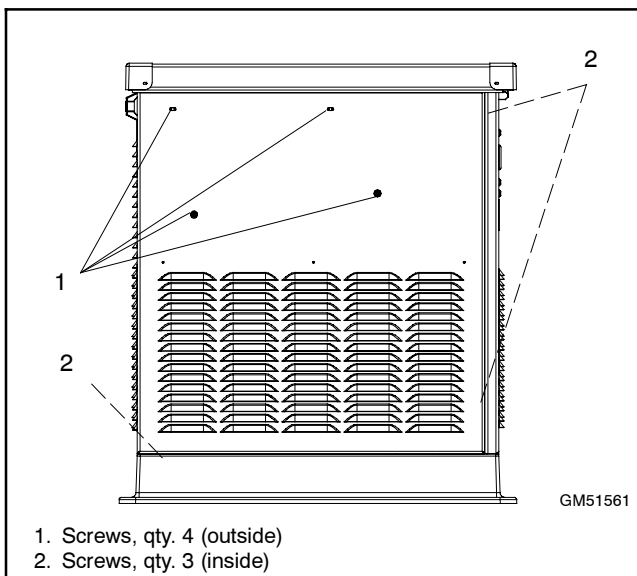

Figure 6-4 Front Panel Mounting Screw Locations
7. Remove the front panel. See Figure 6-4.